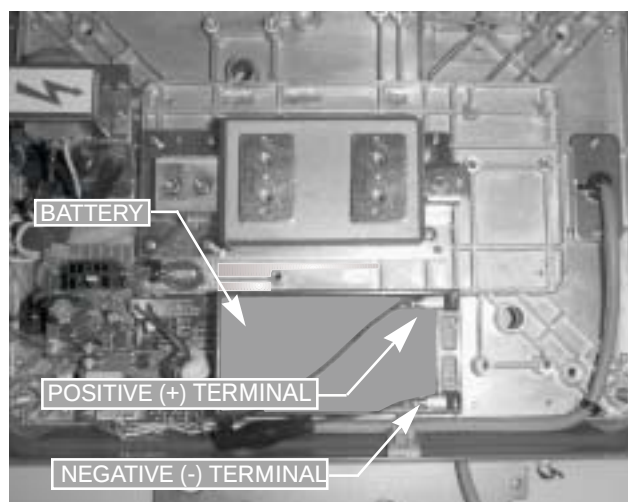

Figure 2-8. Battery Installation
6. Disconnect black (–) and red (+) electrical leads from battery (see Figure 2-8). Remove existing DC battery pack. Attach red lead to positive (+) side of battery.